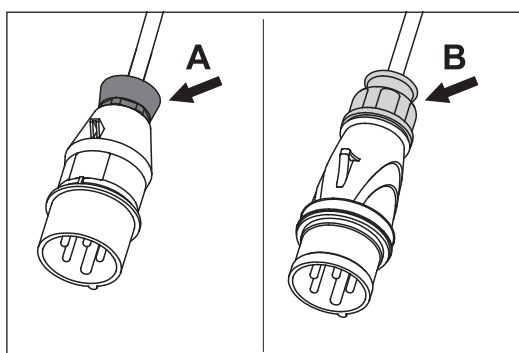

Fig. 20 Original LÄGLER® plug with **red** nut (A) or **yellow** nut (B).
- 2 Original LÄGLER® plug with **red** nut at the cable outlet (fig. 20, A):
Original LÄGLER® plug with **yellow** nut at the cable outlet (fig. 20, B):